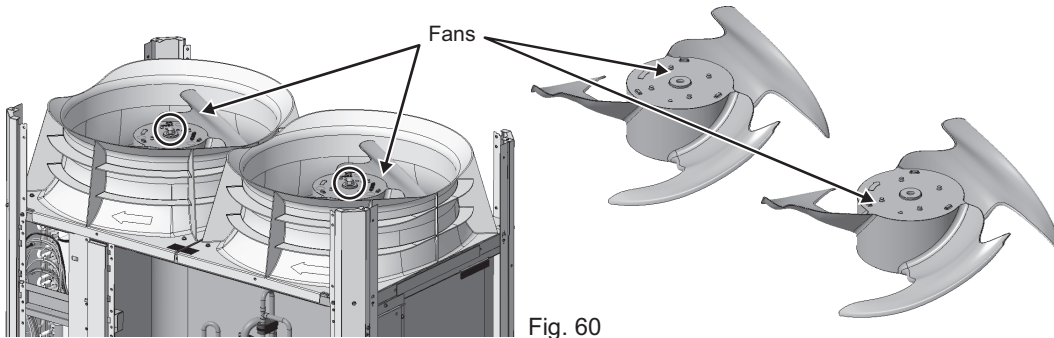

Fig. 60
(7) Remove the fan. (Two nuts: Fig. 60)